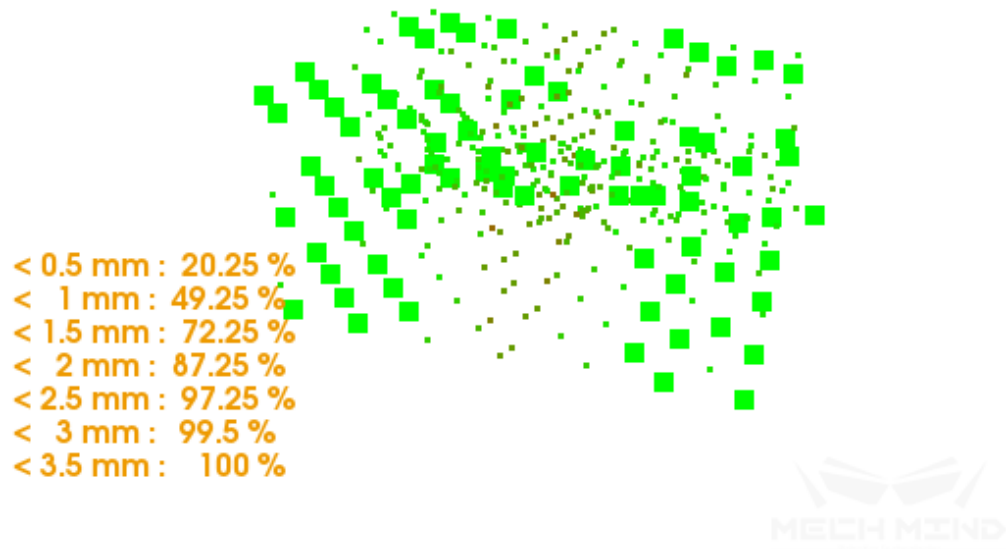

Figure 2 Points with Calibration Error Less than 0.5mm
The color of the point represents the error level (one error level per 0.5mm of deviation). The darker the color is, the greater the error of the point. Pressing the number keys 0-9 will highlight the points in the corresponding error level (where 0 corresponds to points with error less than 0.5mm, 1 corresponds to points with errors between 0.5mm and 1mm, etc). As shown in *Figure 2*, pressing the number key 0